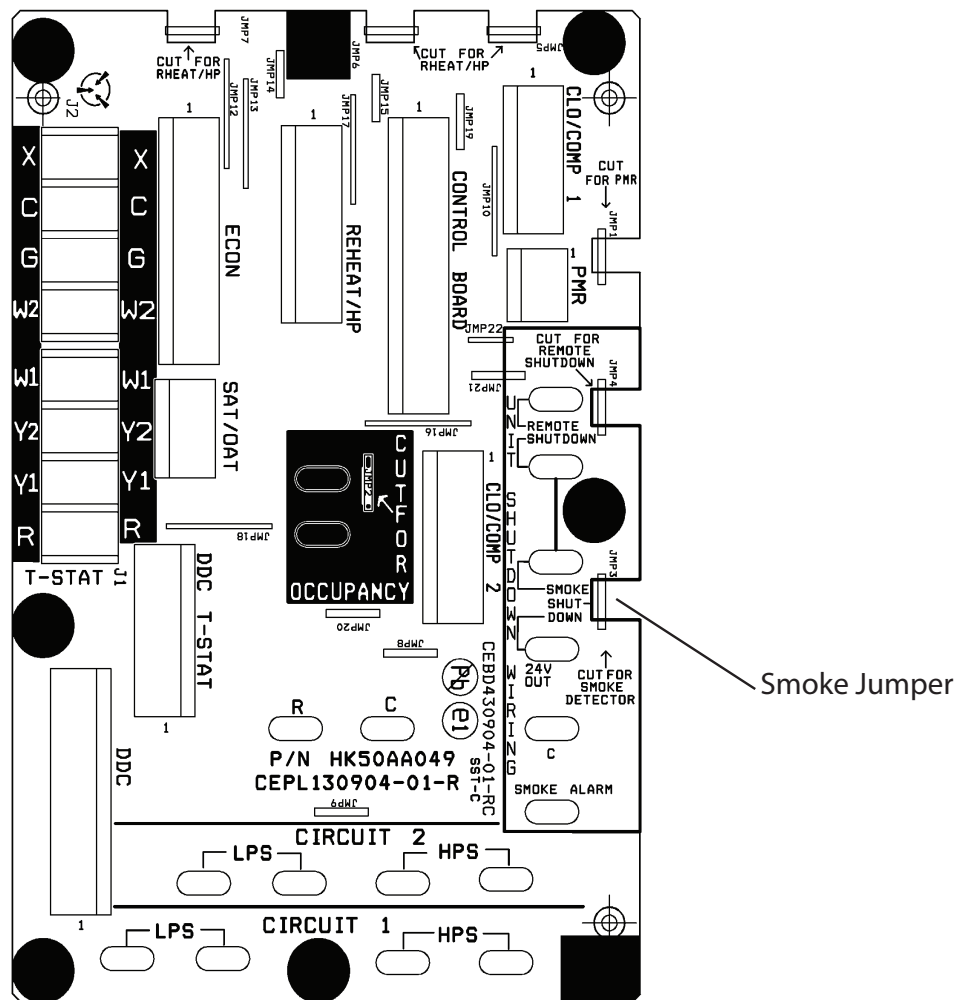

Fig. 8 - Central Terminal Board (Not used for 48/50LC models)
6. Using two #8 screws, mount assembly into pre-drilled holes located next to central terminal board oriented as shown in diagram. (See Fig. 8.)